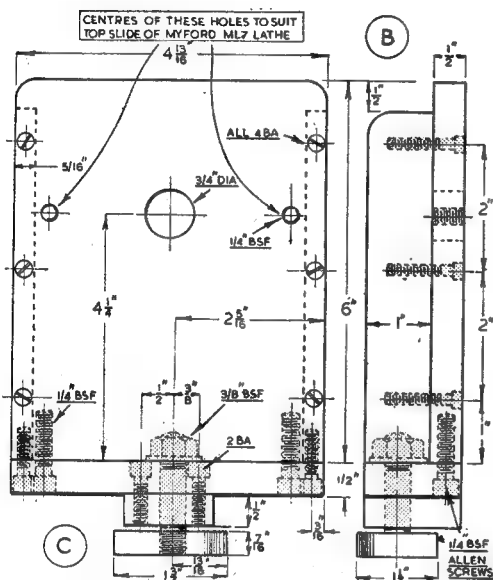

Fig. 1. Constructional details of the bed bracket ("B") and the clamp plate ("C")
## The Bed Bracket—(B) Fig. 1
After the material for the vertical plate has been filed flat on one face, the drill holes shown in Fig. 1 are marked-out and then drilled, but only a pilot hole for the top-slide pivot should be drilled at this stage, as it will be bored out later to the finished size of  $\frac{3}{4}$  in.